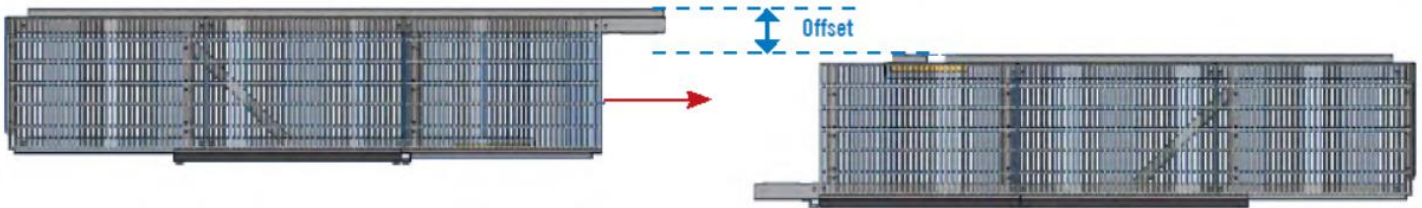
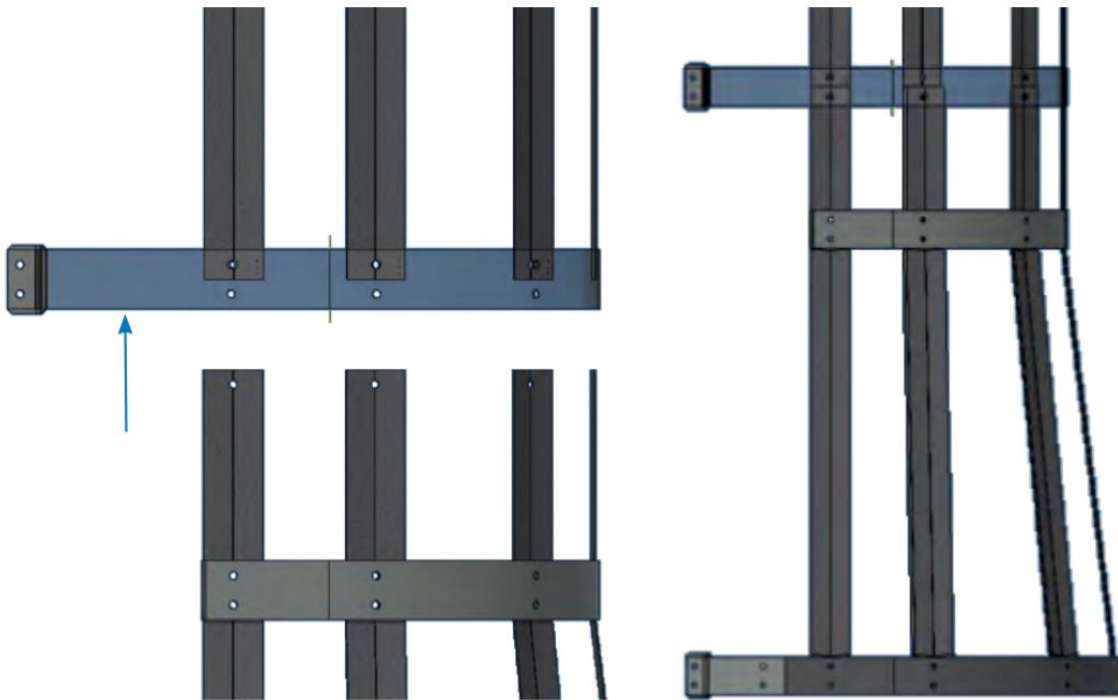

Figure 14. Platform Assembly Offset
Figure 21. Ladder Safety Cage Assembly
8. Using the supplied hardware, install the perimeter handrails at the bracket points as shown in **Figure 14**.
NOTE: Rail corner connections require a Corner Vertical Rail Post. See **Figure 14 Detail B**.
9. At the point where two vertical support meet, install the factory supplied fastener through each support as shown in **Figure 14 Detail C**.
8. Install A-frame handrail section and toeboard. See **Figure 14** and **Figure 21**.